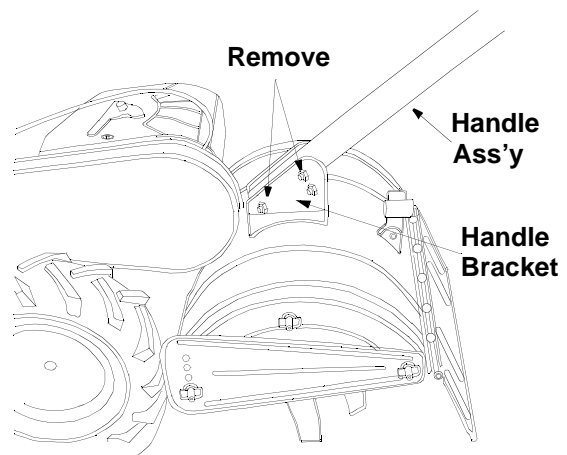

Figure 2
- Remove top two bolts and flange lock nuts from handle mounting brackets as shown in Figure 2. Do not remove the bottom bolt and nut.
- Place handle assembly in position between the handle mounting brackets. See Figure 2.